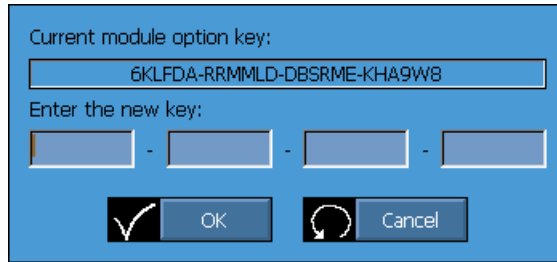

Figure 1-19 The dialog box to type a new option key number
- d) If a dialog box appears requesting an option key number, type your new option key number (see Figure 1-19 on page 39) to activate the TomoView Control program on the current module.